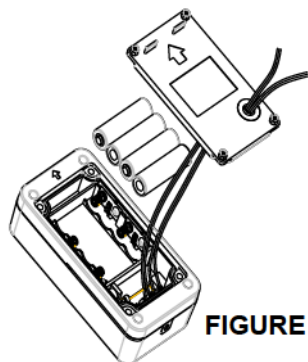

FIGURE 2
3. Insert 4 AA-size 1.5V batteries to the battery compartment, ensuring that correct polarity is put (FIGURE 2).